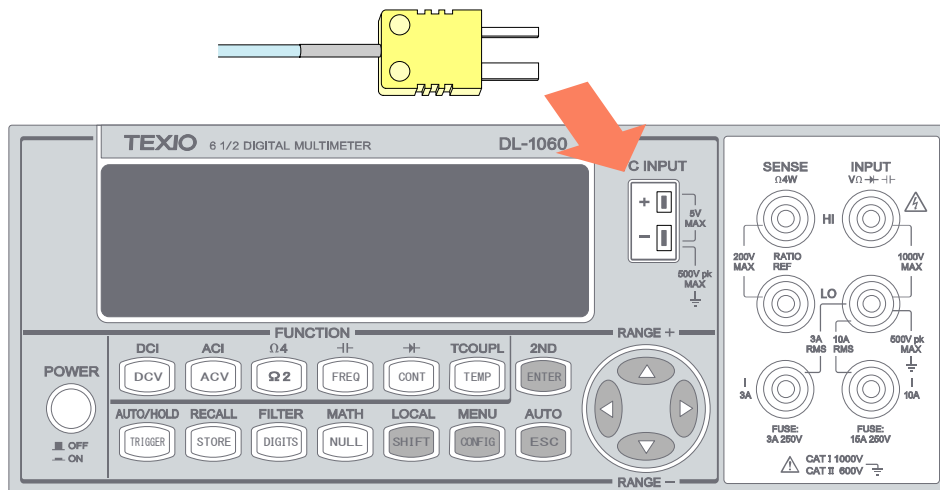

Figure 2-9
1. To measure thermocouple must be via a purposive sensor as shown in **Figure 2-9**.